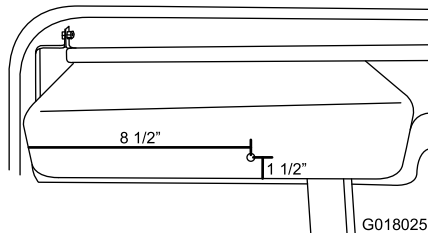

Figure 20
1. Drill a hole (5/16 inch) in the glove box 216 mm or 8-1/2 inches from the left and 38 mm or 1-1/2 inches from the bottom (Figure 20).